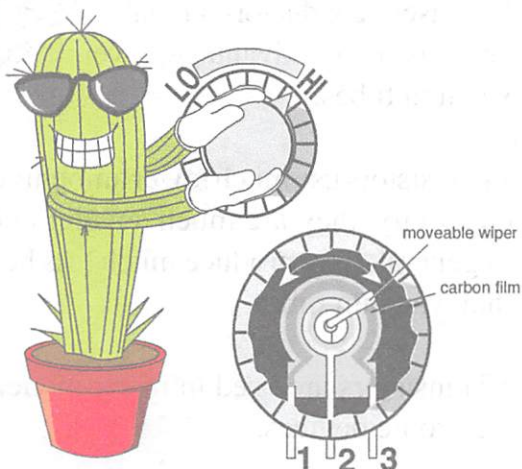

FIG. 1 - Inside a Variable Resistor
Another common component found in many radios, TV's, stereos, etc. is the variable resistor. There are many varieties of variable resistors but a common type used in many of these devices is the potentiometer. The potentiometer is used for the volume, tone, or balance control in many of these devices. It is a variable resistor and it consists of a carbon film in the shape of an incomplete circle. There are 2 terminals attached to the ends of this (see Fig. 1). In addition, there is a moveable arm or wiper which makes contact against the carbon film. This wiper is mechanically attached to a shaft and the entire assembly is installed inside a metal outer case. As the shaft is rotated, the resistance between the wiper (center lead) and the outer leads vary. As the resistance goes up between the center lead (2) and the lead marked 3, the resistance goes down between the center lead and the lead marked 1 (see Fig. 1).